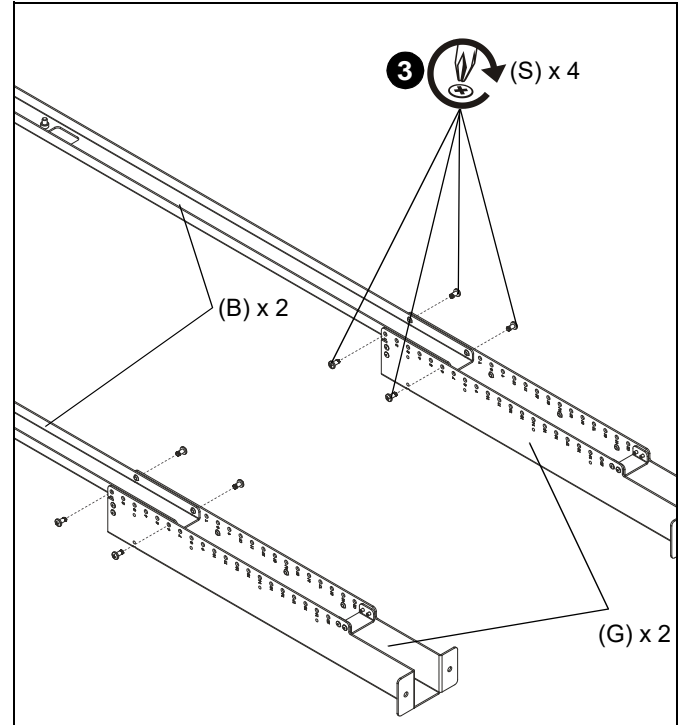

Figure 1
3. Use four 1/4-20 x 1/2" Phillips tapping screws (S) to secure top uprights (B) to bottom uprights (G). (See Figure 1)